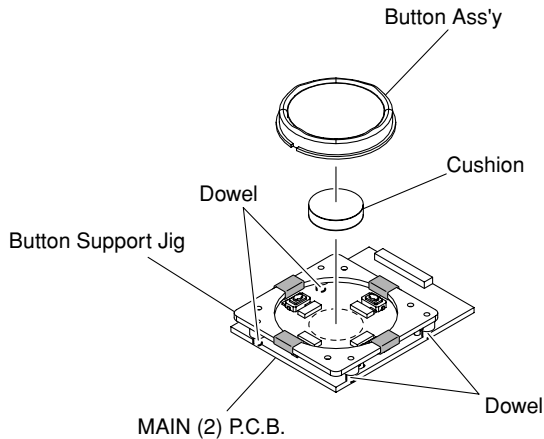

Fig. 5
**Precautions when replacing the MAIN (2) P.C.B. and button assembly**
- a. Install the cushion to the button assembly. (Fig. 5)
- b. Place the button support jig on the MAIN (2) P.C.B. by aligning positions of its 4 dowels. (Fig. 5)